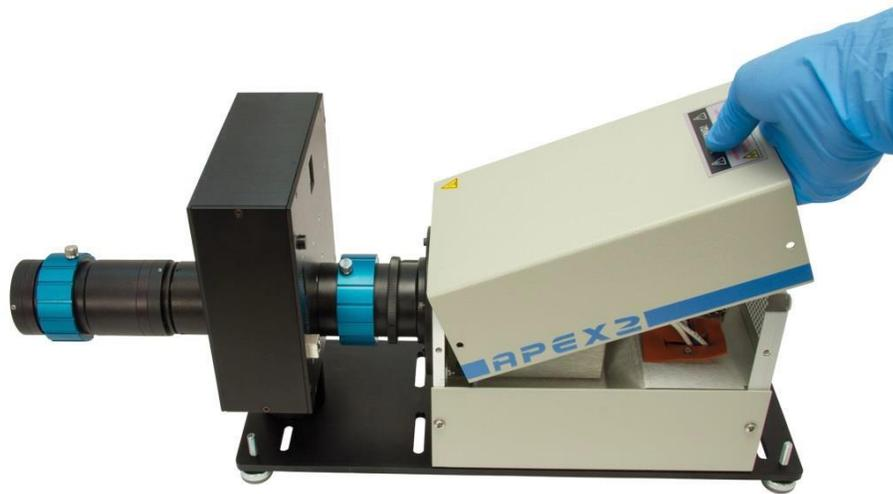

Figure 10: Remove Housing Cover
2. Remove the top cover and set aside as shown in Figure 10.